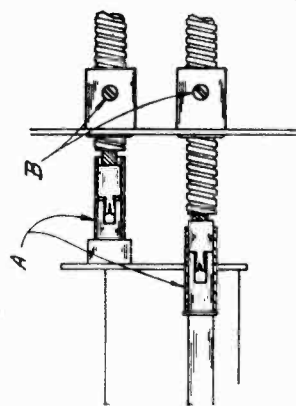

Figure 3
The cable which enters the receiver at the top is the volume control and is connected to the volume control shaft by a slot milled in the end of the shaft and held in place by metal sleeve (A). See Fig. 3. The lower shaft is the tuning control and is connected in the same manner as the volume control.